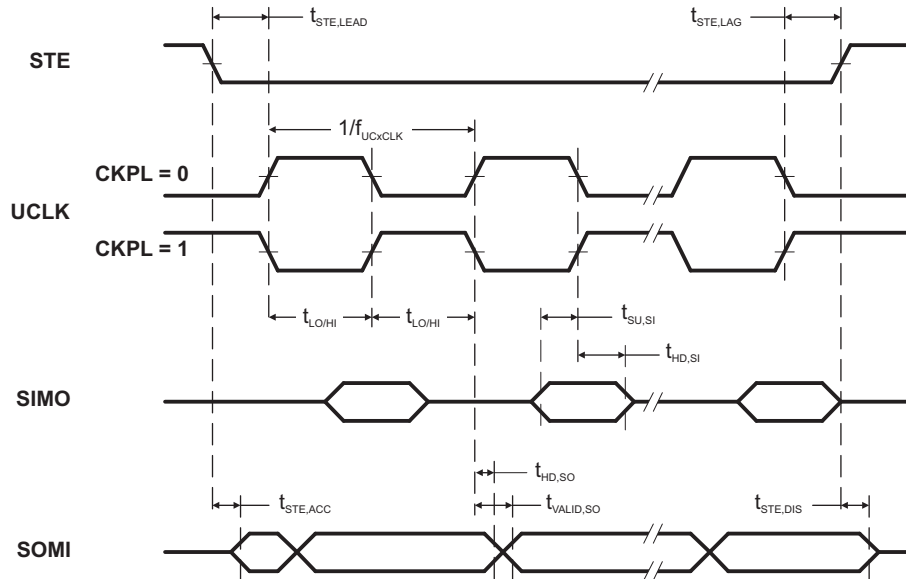
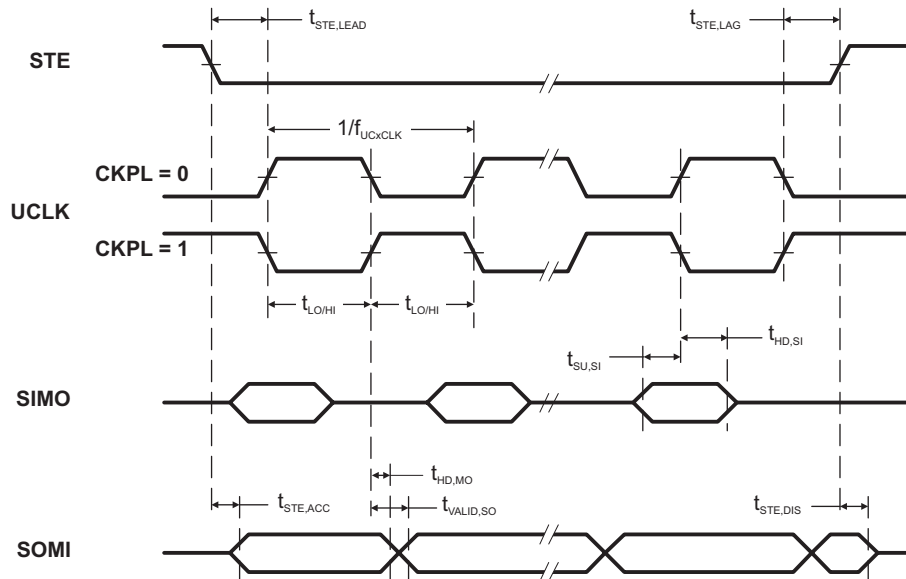

Figure 14. SPI Slave Mode, CKPH = 0
Figure 15. SPI Slave Mode, CKPH = 1
(see Figure 14 and Figure 15)
- (2) Specifies the time to drive the next valid data to the SOMI output after the output changing UCLK clock edge. See the timing diagrams in Figure 14 and Figure 15.
- (3) Specifies how long data on the SOMI output is valid after the output changing UCLK clock edge. See the timing diagrams in Figure 14 and Figure 15.